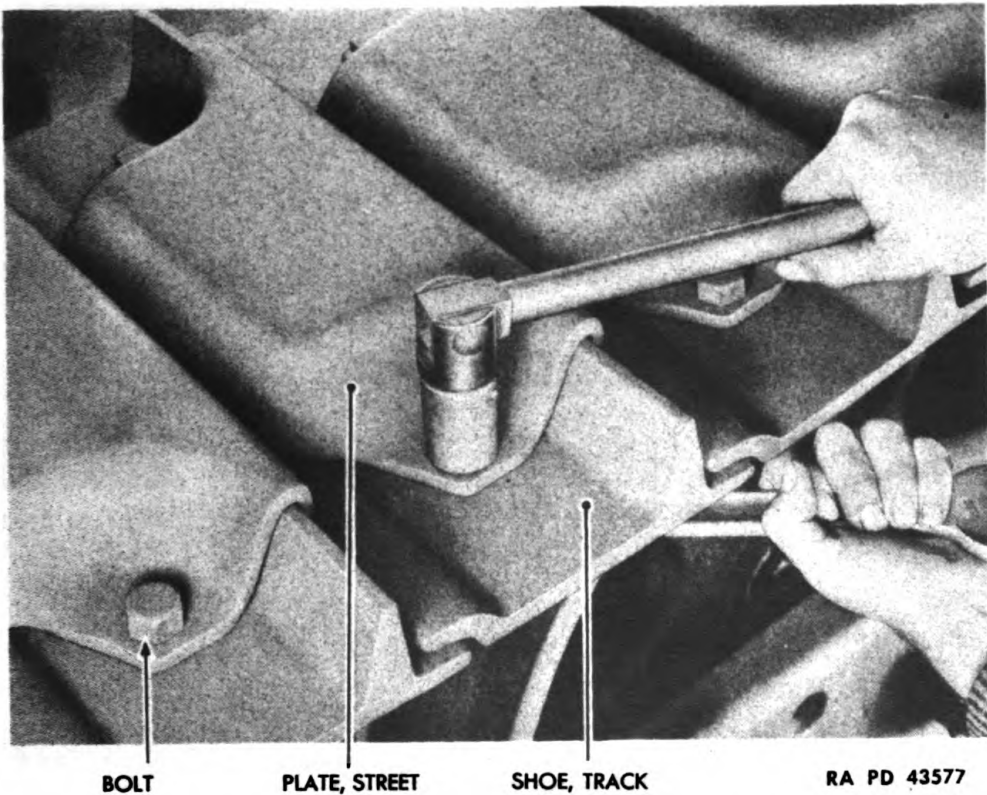

Figure 165 — Street Plate Removal
(a) Remove Street Plate (fig. 165).
(b) Install Street Plate (fig. 165).
(a) Remove Street Plate if Street Plate is Installed (fig. 165). Follow procedure outlined in step (1) above.
(d) *Install Street Plate if Required* (fig. 165).